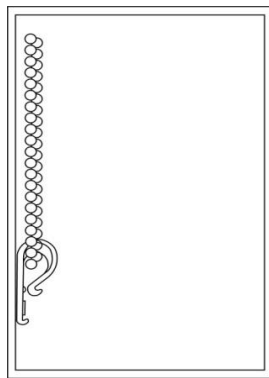

Figure 1
- i) Insert the idle mechanism into the idle bracket (part C) so it is engaged (Figure 1)
1. Position the tension device at the bottom of the chain loop (Figure 1)